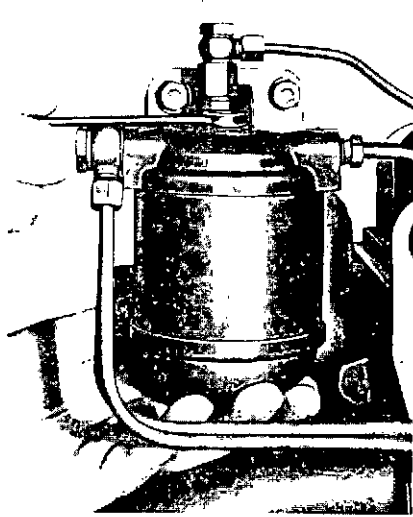

Fig. 16
- (b) Unscrew setscrew at top of filter bowl (see fig. 16).